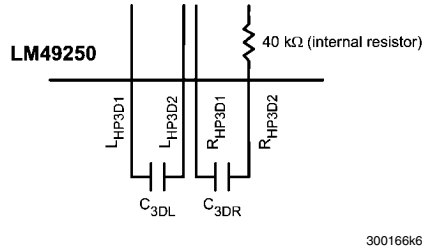

FIGURE 6. External RC Network with Optional R_{3DL} and R_{3DR}
$$f_{3DL}(-3dB) = 1 / (2\pi \times 40k\Omega \times C_{3DL}) \quad (Hz) \quad (1) \quad \text{Optional resistors } R_{3DL} \text{ and } R_{3DR} \text{ can also be added (Figure 6) to affect the -3dB frequency and 3D magnitude.}$$